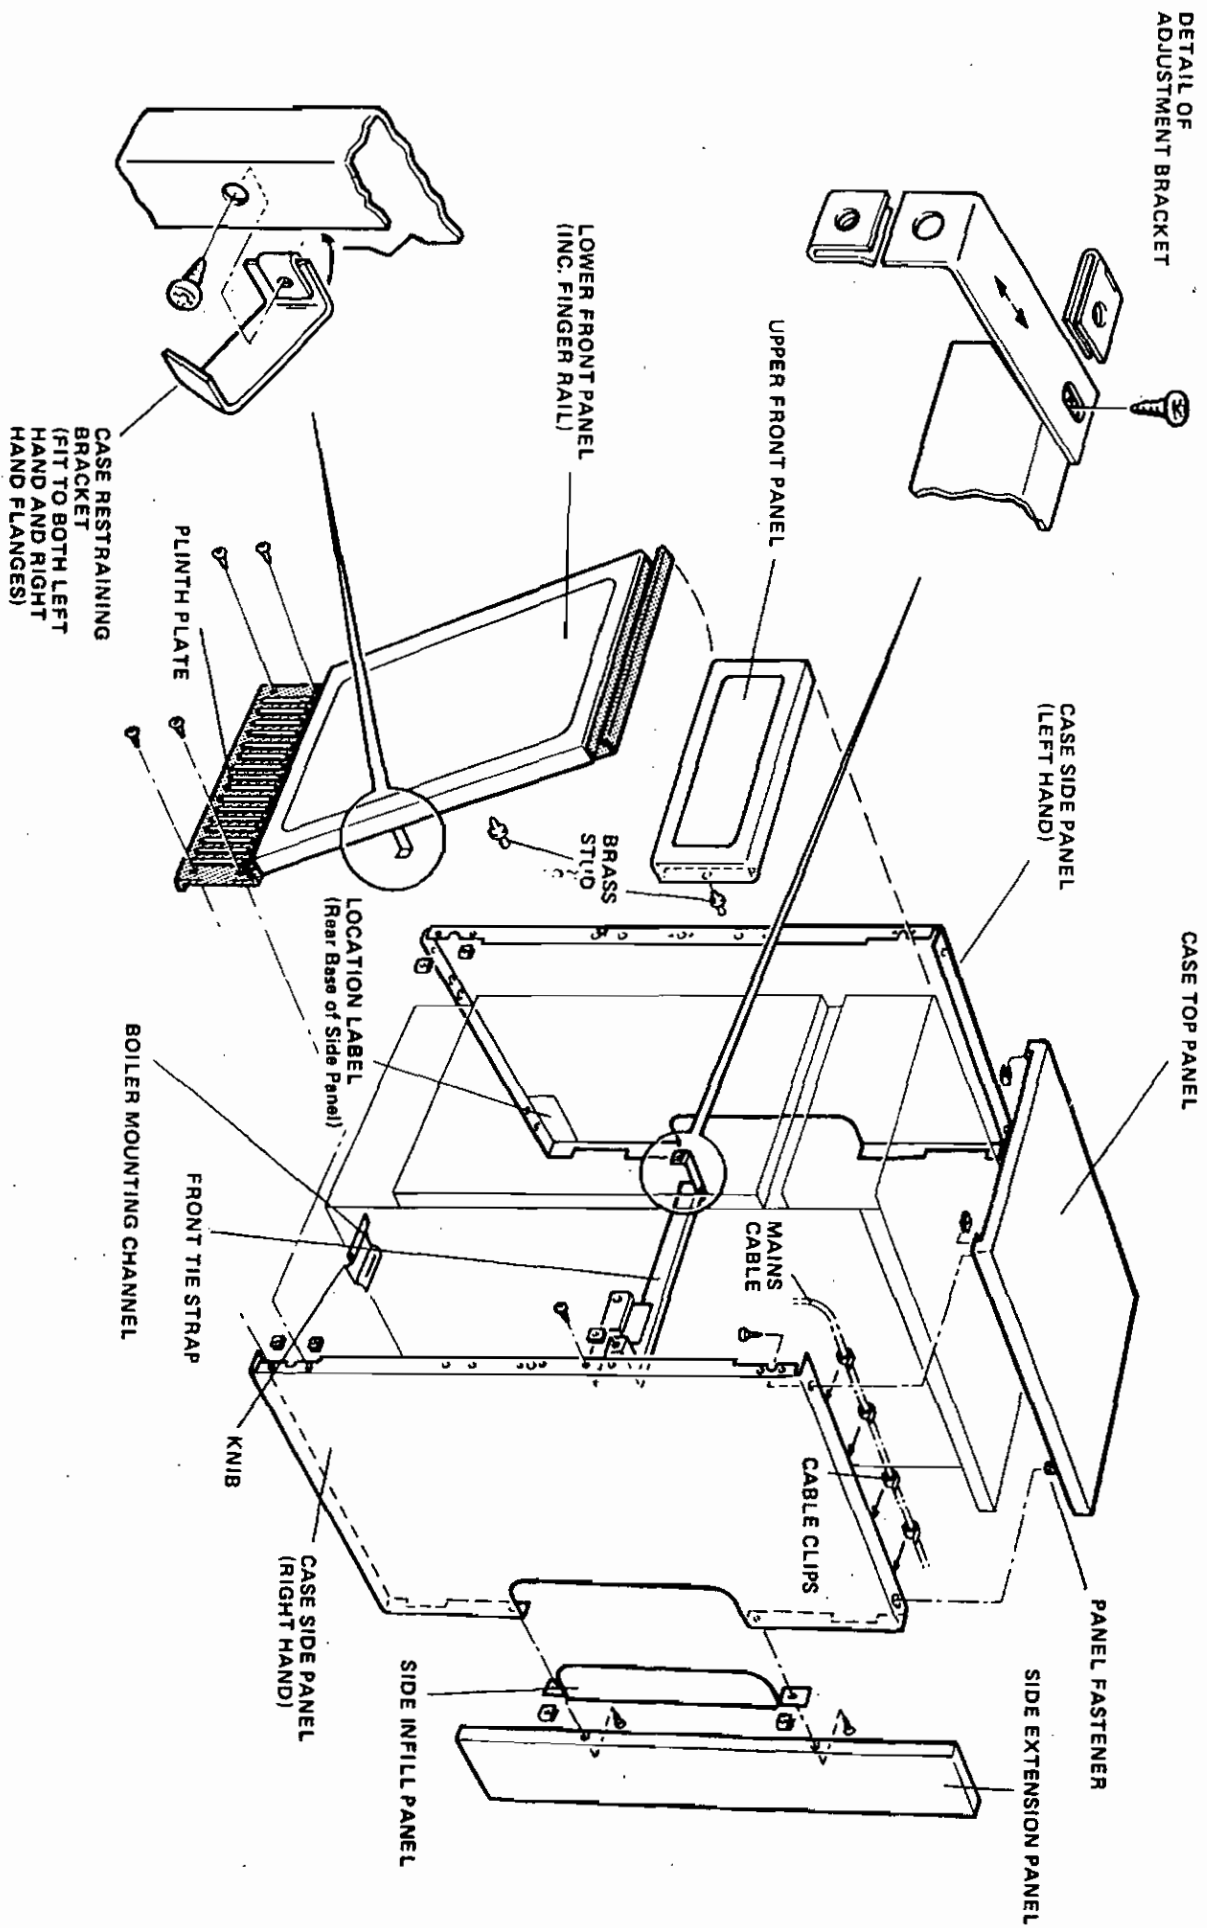

FIG. 12
10. CASING—See Fig.12
- B. Fit the captive nuts supplied in the fastener pack to the hole positions shown in Fig.12 (6 off, including 2 for the side infill panel). The four smaller captive nuts and screws contained in the additional polythene bag should be used for the plinth.
- D. Fit the case adjustment brackets to each end of the front tie strap as shown in Fig.12. Do not fully tighten the screws at this stage.
- M. Fit the two universal case restraining brackets and their captive nuts to the holes beneath the bank of three holes in the flange of the lower front panel (see Fig.12). Fit the brass studs to the smaller holes of the bank of three holes in each side of the lower front with the two M5 nuts and shakeproof washers.